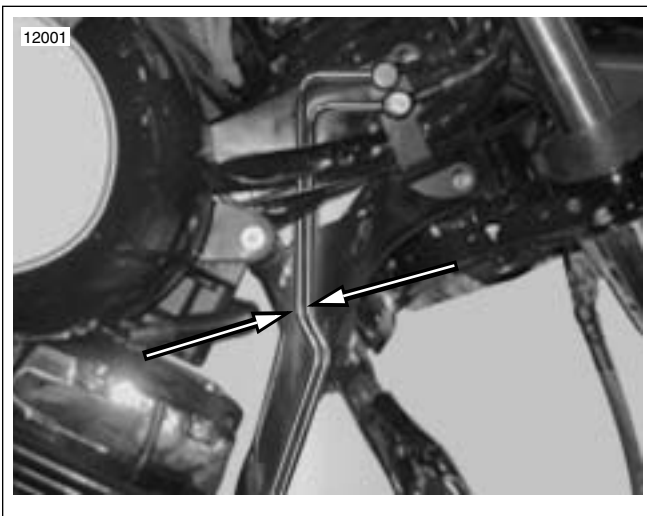

Figure 3. Correct Routing For Rearward Extending Brake Lines
1. See Figure 3. Routing is correct when both brake lines extending rearward from the brake manifold are evenly routed as they are followed down from the brake manifold.